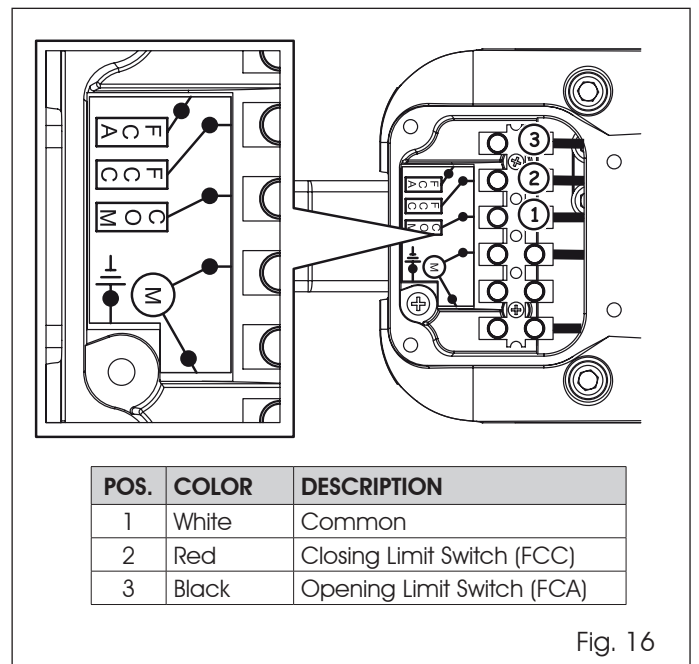

Fig. 16
3. Thread the three conductor cable through the strain relief and connect the wires as shown in Fig.16.